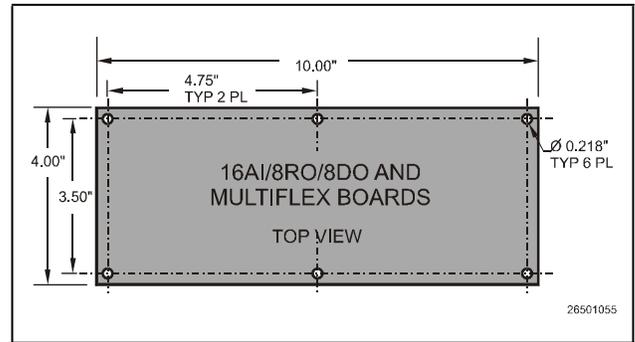

Figure 2-2 - MultiFlex Board Dimensions
**Figure 2-2** provides mounting dimensions for the MultiFlex board.